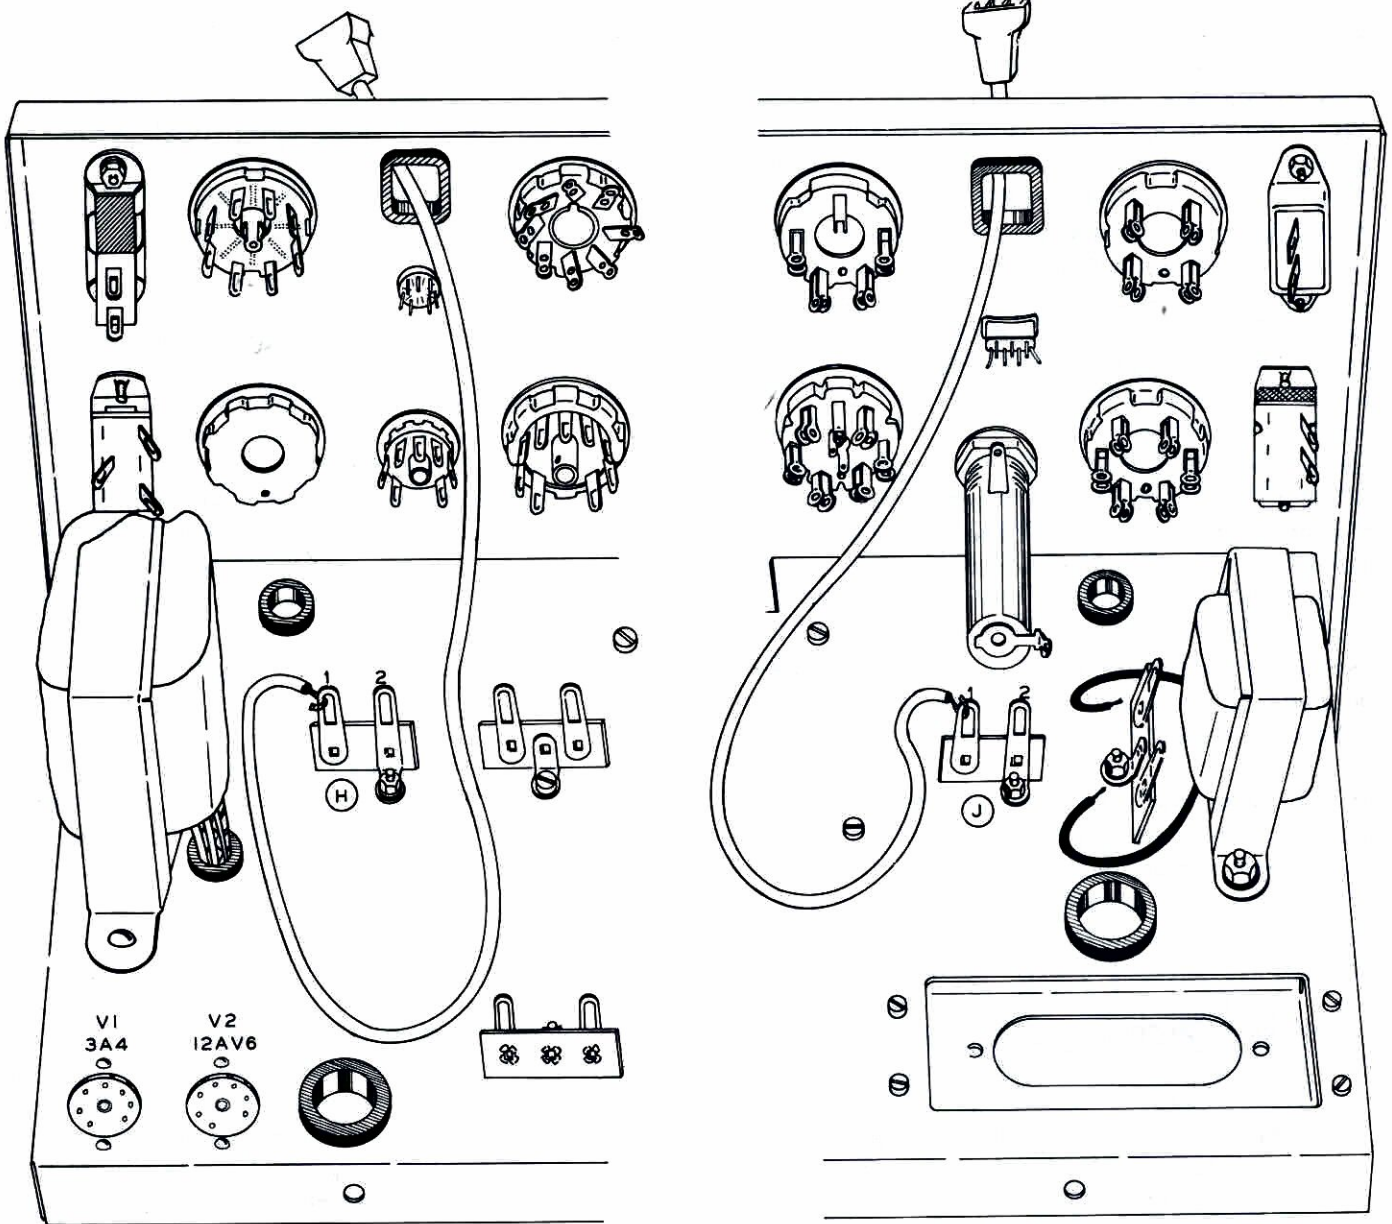

Figure 77
- ( ) Prepare two tube cap leads as shown in Figure 77. *1-18" 1-24" long*
- ( ) Install the tubes as indicated in Figure 77.